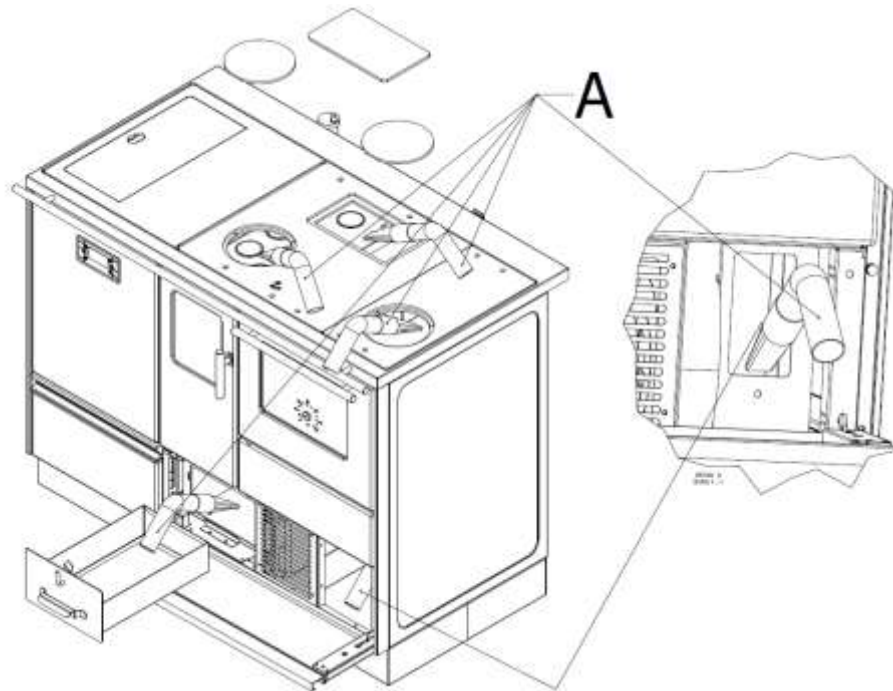

Figure 14
- The cooker must be cleaned regularly in order to function properly and fully use the power and save fuel. Locations indicated with "A" in Figure 14 should be cleaned with a vacuum cleaner for 7 to 10 days, and the ashtray should be cleaned every day.